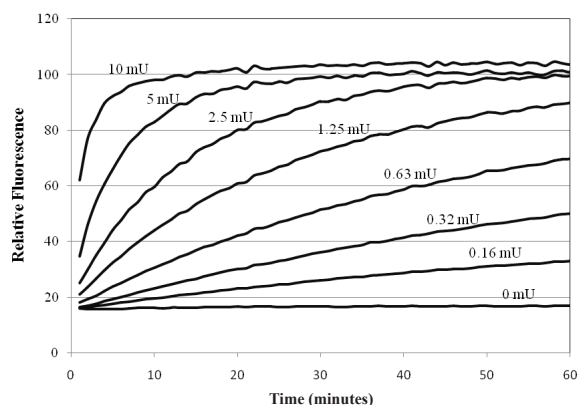

Figure 3. Typical reaction curves from a polymerase dilution series.
- Monitor the fluorescence of each dilution using Protocol A. Figure 3 shows a typical collection of reaction curves from a dilution series.